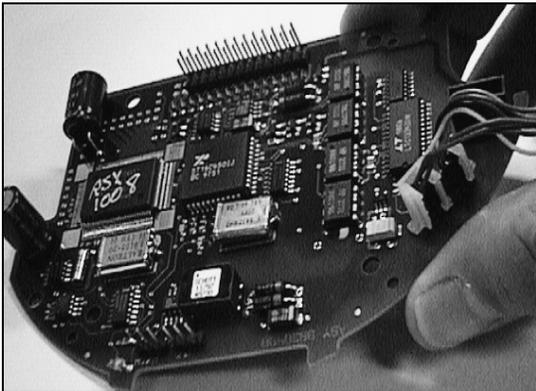

Figure 6: Locating knockout for cable assembly on S-Base meters
1. With the kV™ Meter base facing you, locate the lower of the two small knockouts and remove it (see Figure 6: Locating knockout for cable assembly on S-Base meters). Enlarge the hole to a diameter of 0.290 inches. Make sure the resulting hole is clean.